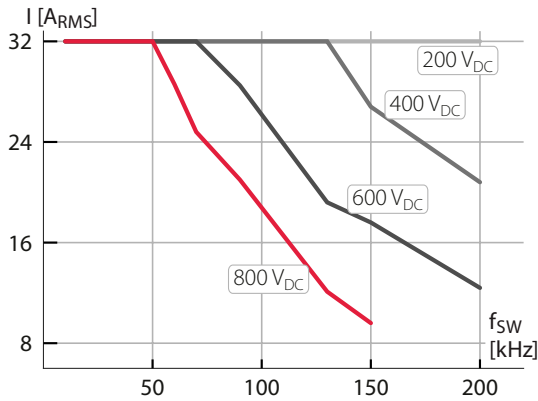

Fig. 10. Current capability as a function of the switching frequency
The operating conditions are constrained by the converter Safe Operating Area (SOA). The limitations on the DC bus voltage, AC output voltage, and switching frequency are illustrated in Fig. 10 to 13.
The maximum continuous current depends mostly on the cooling capability of the power semiconductors. When switching losses increase, conduction losses must be reduced according to Fig. 10 and 11 to ensure proper cooling. Additionally, further derating due to the ambient air temperature or other environmental conditions may apply.
- » **B-Board controller** : The main processing unit enforces the SOA curves from Figures 10 and 12. Additionally, it provides an over-current protection for the damping resistors and automates the operation of the AC precharge.
The B-Board continuously monitors the DC bus voltage and power modules currents and estimates the switching frequency from the gating signals. Therefore, it can detect if the inverter is operating outside the SOA curves from Fig. 10 and 12 and generate a fault.
Current derating curve exceeded	$ I_M  >  I_{M,max}(V_{DC}, f_{sw}) $ , see Fig. 10